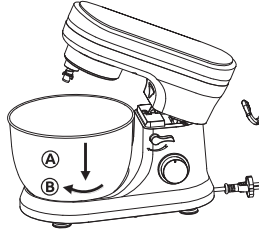

Fig. 2
2. Place the mixing bowl (5) into its holding device (A) and turn the bowl clockwise until it locks into place (B). [Fig. 2]